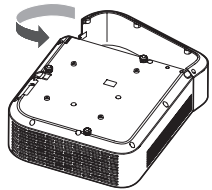

Figure 3
- The cable cover screw should be aligned with the projector screw hole (Figure 3).